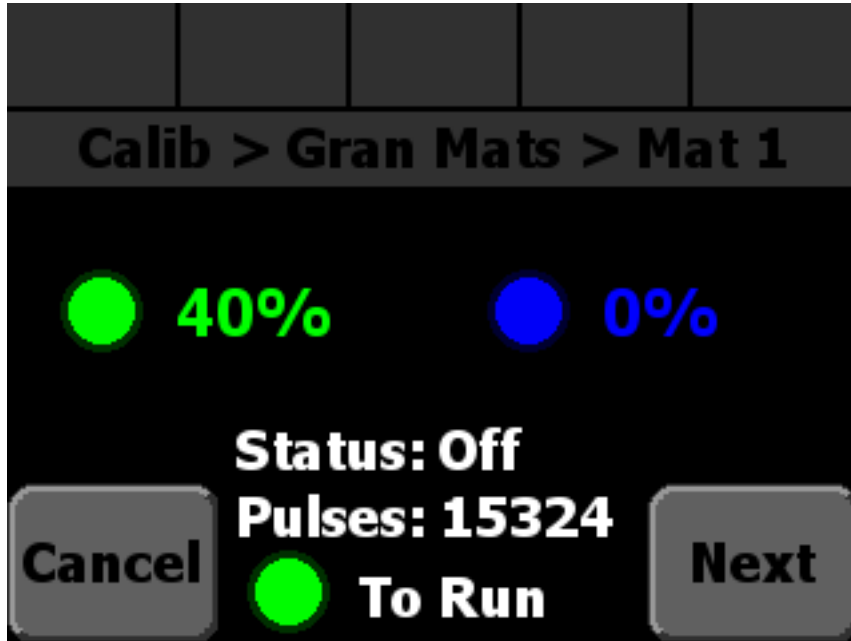

Figure 5: Granular AutoCal Screen after running
STEP 12: Press the green, Standby knob to stop dispensing material. The status should change to "Off", as shown in Figure 5. If your system is an Open Loop system the pulses will be 0.